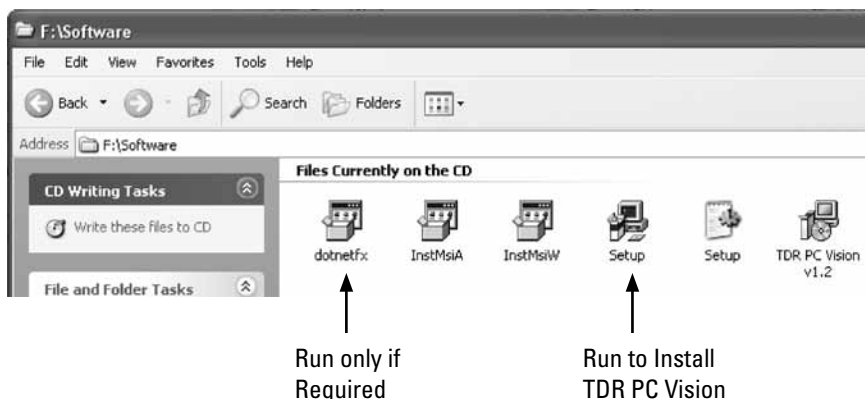
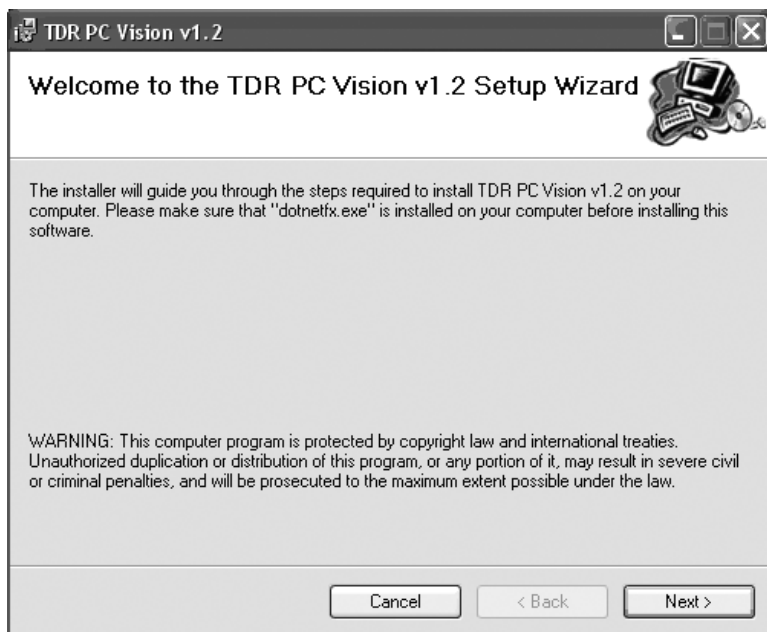

Figure 4-1
Figure 4-2
2. Use Windows Explorer to view the CD's directory as shown in figure 4-1.
3. Double-click on the `Setup` file shown in figure 4-1. (Optional is to copy the contents of the “Software” folder to a directory on your PC hard drive and start the installation from that directory. In either case the results should be a dialog box as shown in figure 4-2